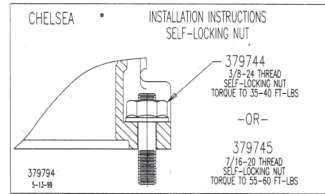

Fig. 16
17. Use Self Locking nuts provided with P.T.O. (Fig.16)